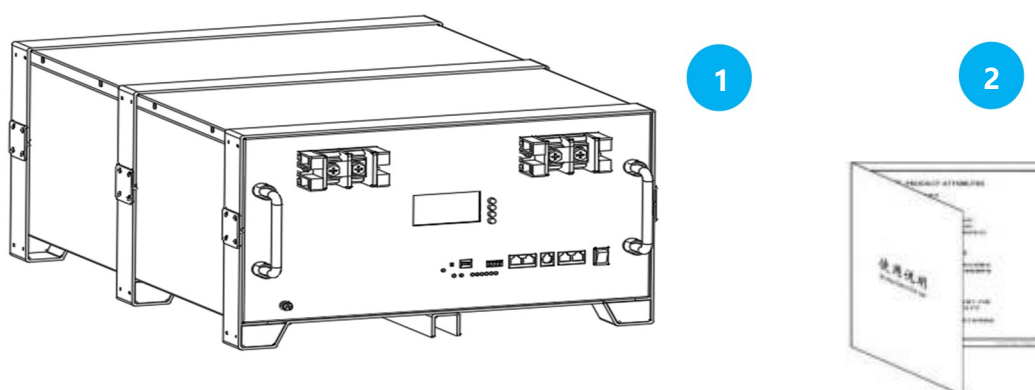

Figure 2-1 Shipping Parts Diagram
2. Check the random accessories according to the shipping attachment list to see if they are complete and correct (as shown in Figure 2-1);